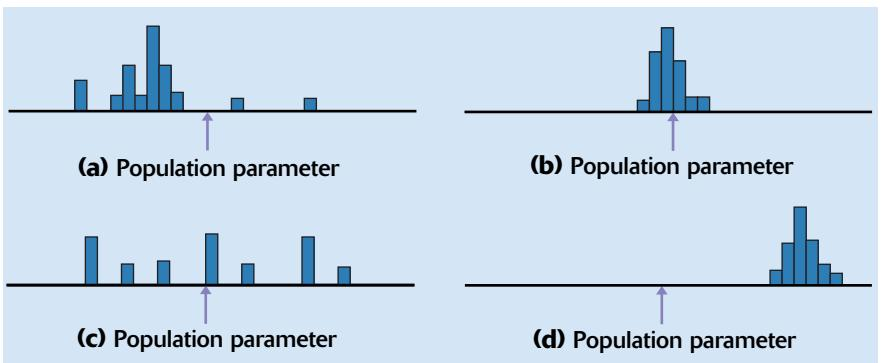

FIGURE 3.14 Which of these sampling distributions displays high or low bias and high or low variability? (For Exercise 3.68.)
- 3.68 **Bias and variability.** Figure 3.14 shows histograms of four sampling distributions of statistics intended to estimate the same parameter. Label each distribution relative to the others as high or low bias and as high or low variability.